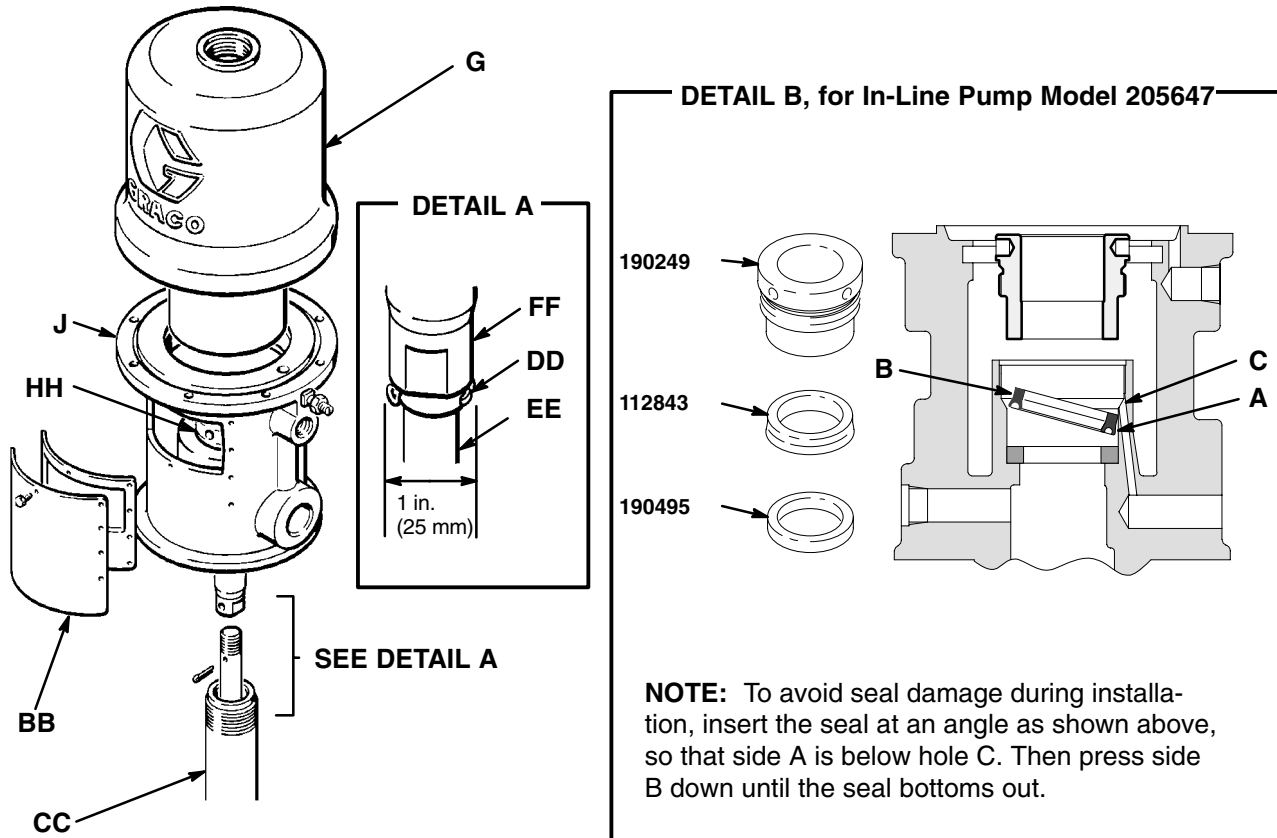

Fig. 4
NOTE: See Fig. 4 on page 12 and the **Parts Drawing** on page 14.
1. Clamp the pump in a vise and unscrew the displacement cylinder (CC) from the air motor base (J). Pull the displacement cylinder away from the air motor until the cotter pin (DD) which secures the displacement pump connecting rod to the air motor piston rod (FF) is visible. See Fig. 4.
2. Remove the cotter pin (DD) and unscrew the pump connecting rod (EE) from the air motor piston rod (FF). See Fig. 4. Remove the cylinder (G) from the air motor base (J) as described under **Disassembly** on page 8.
3. Remove one louvered air exhaust plate (BB) and unscrew the throat packing nut (HH), using a spanner wrench or a 0.22 in. (5.6 mm) diameter rod. See Fig. 4. Remove the spacer and packing from the base and packing nut. Clean the throat packing area in the base and the packing nut. Clean and inspect all parts and replace as necessary.
4. Lubricate the packings, piston rod and piston flange with a light waterproof grease. Reinstall the spacer and packing in the base and packing nut. Be sure the lips of the v-packings face down. See Detail B. Screw the packing nut loosely into the base. Carefully slide the piston rod down through the throat packing and lower the piston into the base. Tighten the packing nut securely. Reinstall the plate (BB) and cylinder (G). Reassemble the air motor to the displacement pump.
When reinstalling cotter pin (DD), **always** spread and flatten the pin (both the head and prongs) around the rod to within a 1 in. (25 mm) total diameter. See Detail A of Fig. 4.
See Fig. 4 on page 12 and the **Parts Drawing** on page 16.
3. Remove one louvered air exhaust plate (BB) and unscrew the throat packing nut (HH), using a spanner wrench or a 0.22 in. (5.6 mm) diameter rod. See Fig. 4.